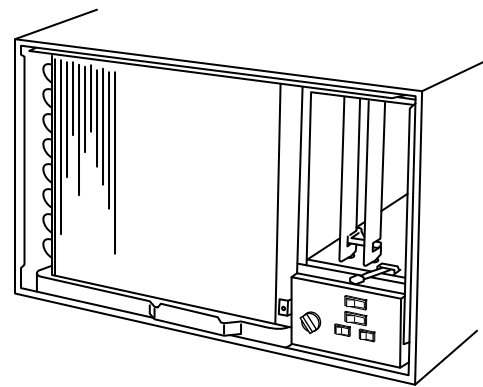

Fig. 5
Remove the terminal cover of the compressor motor, set the resistance measuring range of the multimeter to "X1Ω" and check the continuity between each pair out of the 3 terminals as shown in Fig. 5.
- (1) Remove the front grille. (Fig. 5)